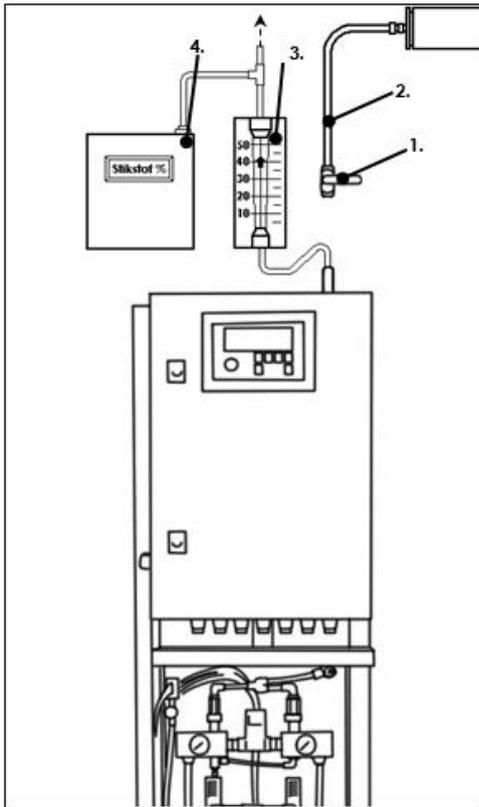
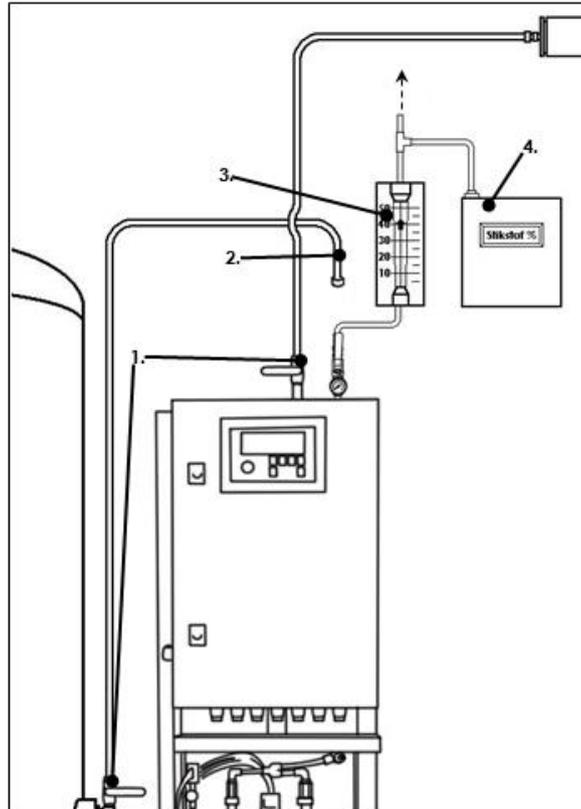

Figure 41. Output measurement setup with HP vessel
Figure 42. Output measurement setup with HP vessel
1. Close the buffer tank from the generator by closing the ball valve (Figure 41 no. 1) in the nitrogen line. If there is a pressure vessel, also close the ball valve on the HP-vessel and the generator (Figure 42 no. 1).
2. Remove the nitrogen tube (Figure 41 no. 2) before the ball valve so that the nitrogen cannot leak from the buffer tank. When a high-pressure vessel is present, de tube to the HP vessel (Figure 42 no. 2) needs to be disconnected instead of the nitrogen tube.
3. Mount a flow meter (Figure 41 no. 3) (Figure 42 no. 3)
4. After mounting the flow meter, mount an oxygen meter, make sure that the air can be blown off so you will maintain a good flow measuring. (Figure 41 no. 4) (Figure 42 no. 4)